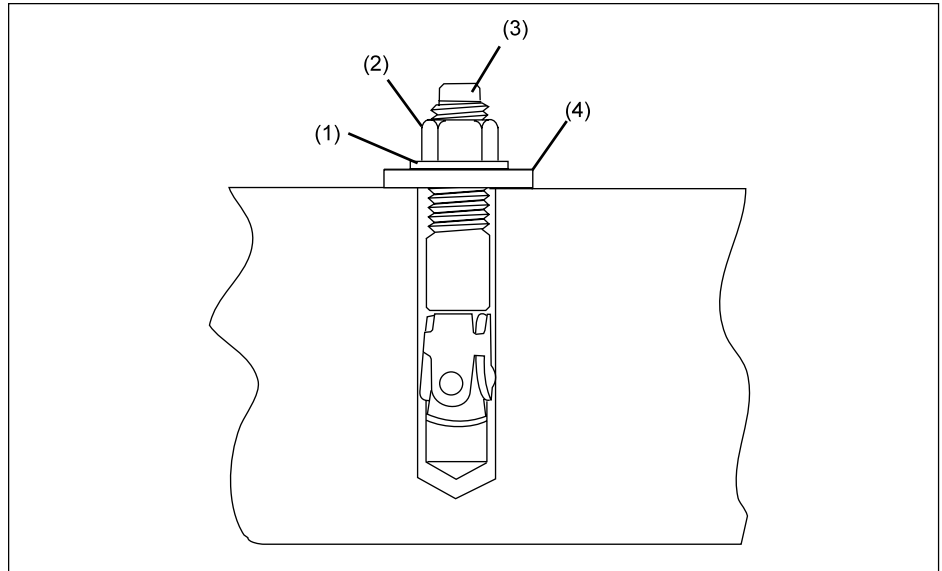

Figure 3. Install Fastener
3. Install a flat washer and 3/8-16 nut on the fastener and tighten the nut to a torque of **25 foot pounds (34 nm)**. Refer to *Figure 3*.